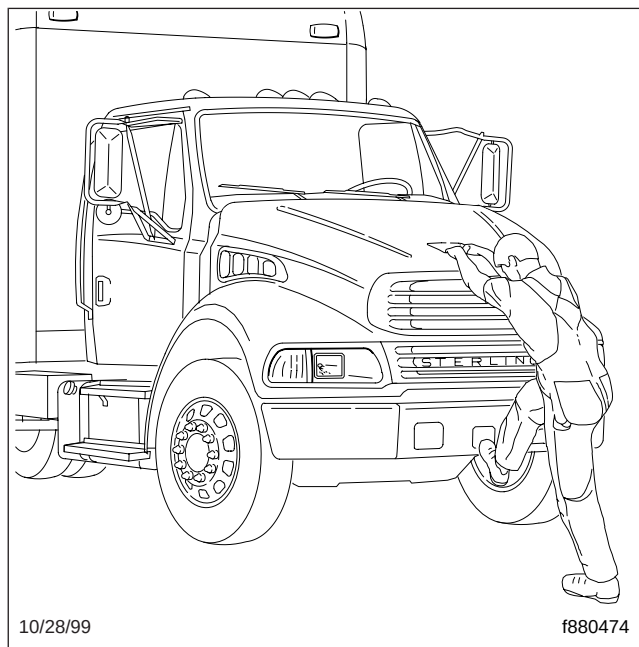

Fig. 3.9, Tilting the Hood
- Using the front bumper step and the hood handle, slowly tilt the hood until the stop cables support it. See Fig. 3.9.